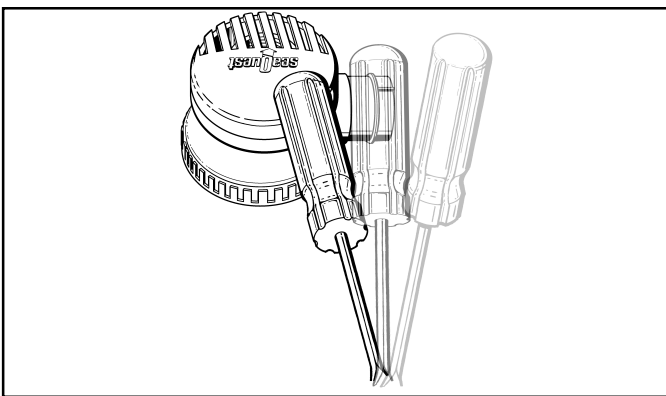

Figure 9
2.1.3 Locate the seam that runs along the circumference between the dual valve body and the outer cap(1), where the cap is fastened to the body. Using the plastic handle of a medium size screwdriver, or similar lightweight blunt instrument, rap sharply against all points of the seam to break the adhesive bond (see Fig. 9).